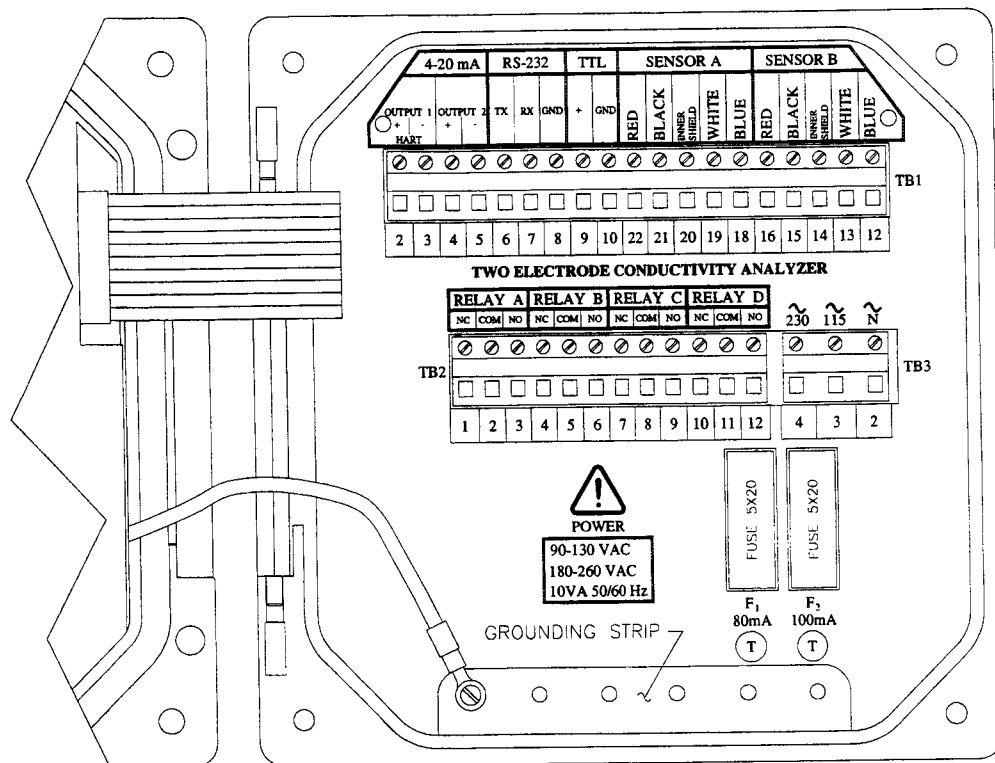

FIGURE 2-3 Terminal Block Designations for Analyzers with "B" Prefix Serial Numbers
To access terminal blocks for electrical connections, open the left-hinged enclosure door by unscrewing the four fasteners. Figure 2-3 or 2-4 shows the terminal block arrangement and terminal designations inside the analyzer.
- The grounding strip at bottom of case (5 open holes, Fig. 2-3) for analyzers with "B" prefix serial numbers.